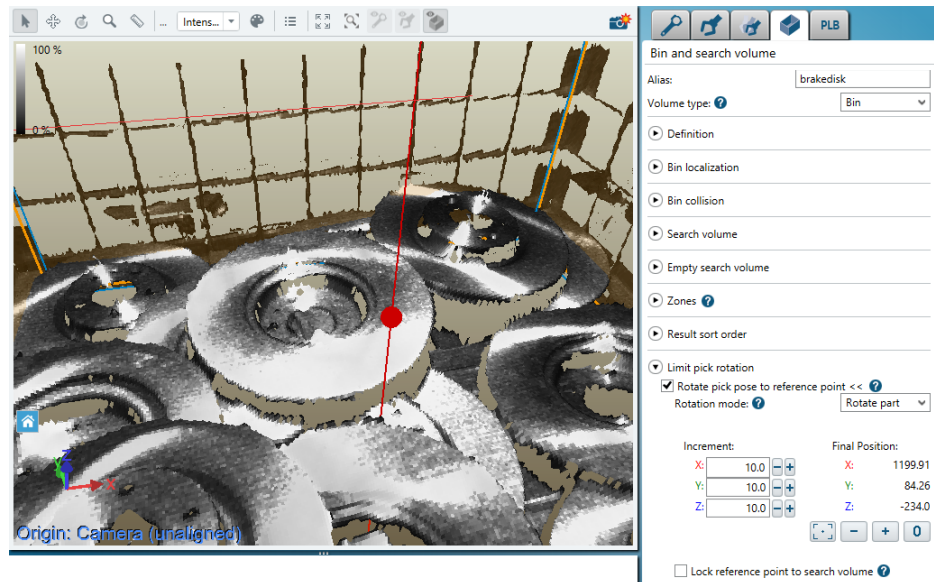

Figure 75: Defining the reference point
- ✓ Z-axis or the local bin Z-axis (if **Lock reference point to search volume** is selected). See figure 75. It is also visualized in the **Pick poses** and **Analyze** tabs.